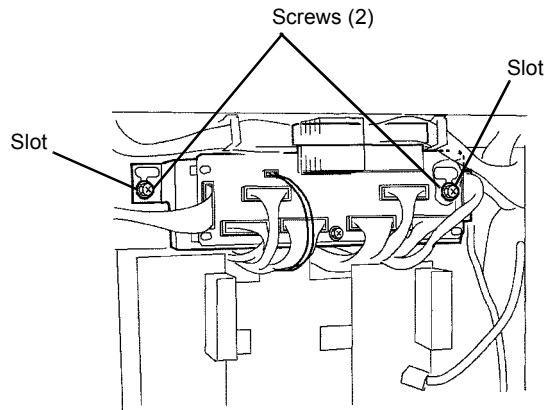

Figure 2 Installing Interface PWB
Ensure Screws (2) are positioned in slots as shown before tightening Screws (2) (Figure 2).